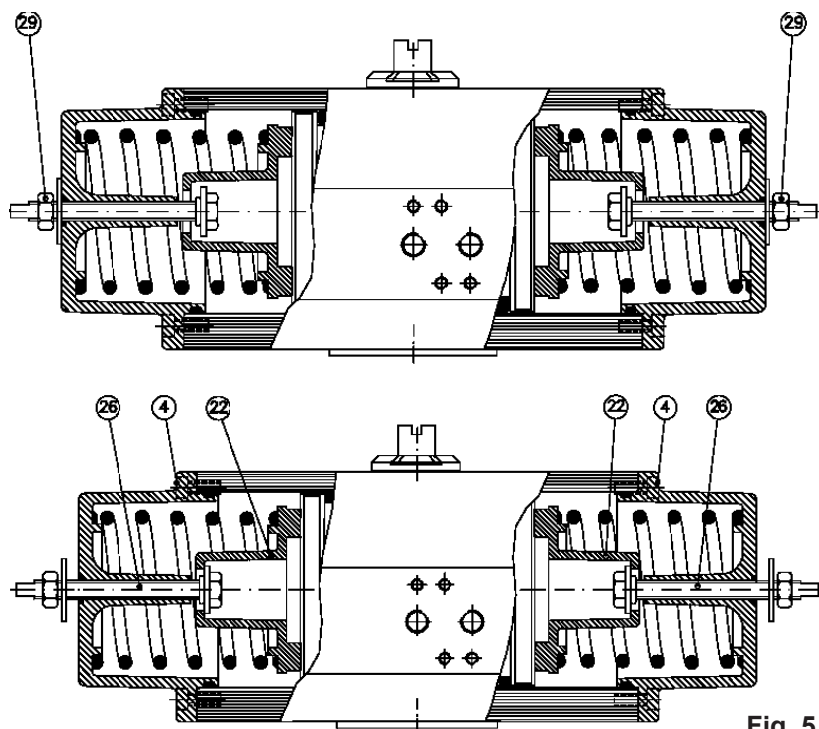

Fig. 5
2. Check that the springs can press the piston into starting position according to figure 5.
4. Loosen the lock nuts (29).
5. Turn both spring tensioning screws (26) clockwise until they lie lightly against the spring guides (22).
6. Turn the left spring tensioning screw (26) anti-clockwise until it lies lightly against the spring guide (22) and dismantle the left spring housing by loosening the screws (4).